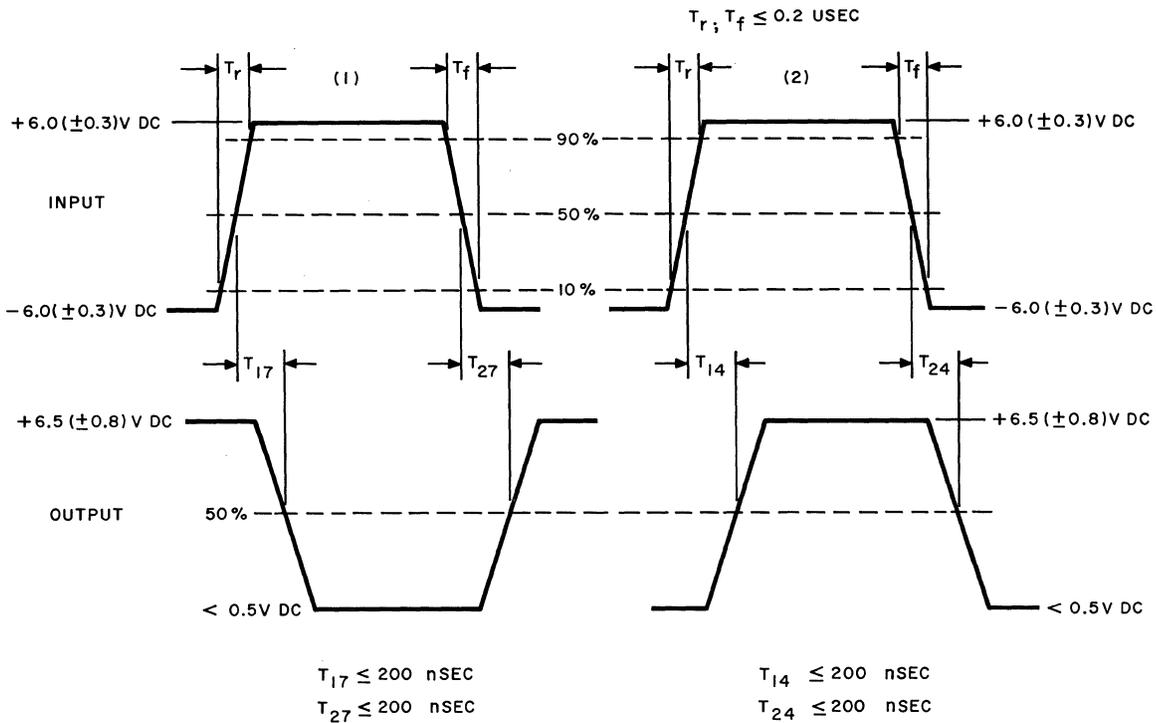

Fig. 54 — MIL. STD 188 Interface Test
- (4) Set the scope EXT SYNC TRIGGER SLOPE to the (+) positive position. The output pulse on terminal 12 should be as specified in Fig. 54 (1). Measure T17. Set the EXT SYNC TRIGGER SLOPE to the (-) negative position and measure T27.
- (5) The output pulse on terminal 11 should be as specified in Fig. 54 (2). With the EXT SYNC TRIGGER SLOPE set at the (+) positive position, measure T14. Set the trigger slope to the (-) negative position and measure T24.